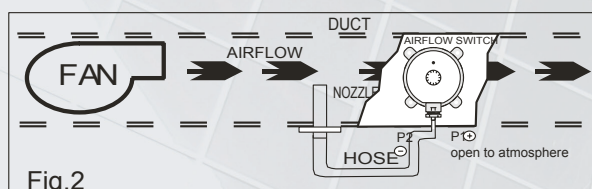

Fig.2
3. Mount nozzle in duct where positive air pressure is to be monitored, and well away from the fan to prevent turbulence (as shown in fig.2).